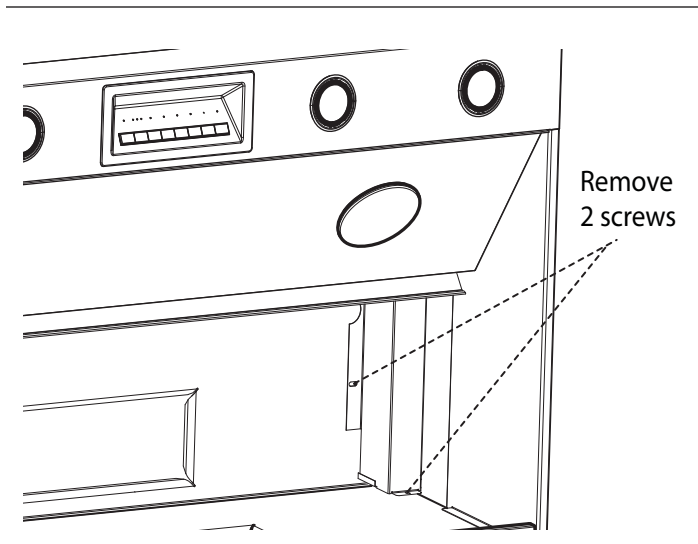
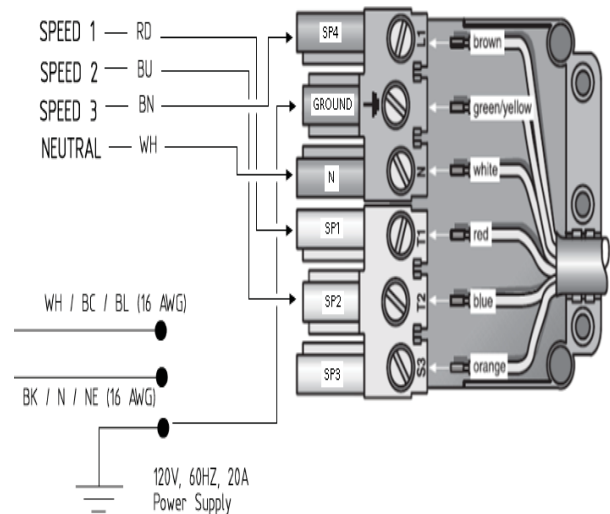

Figure 12: Junction Box Channel
Figure 21: Wiring the Hood with a Remote Blower
1. Remove junction box channel covering the wires (see *Figure 12 on page 10*).
2. Remove circular knockouts (*Figure 12 on page 10*).
- Lost or missing wire nuts should only be replaced with spring type wire nuts, rated for a minimum of two (2) #18 gauge wires and maximum of four (4) #14 gauge wires, UL & CSA rated to 600V and 302°F (150°C).
7. Run five (5) #14 AWG wires in 1" (25.4 mm) conduit from the remote blower to the second conduit connector.
8. Connect the remote blower to the pigtail wires as per *Figure 21*. Connect the remote blower green (ground) wire to the ground screw in the junction box. Refer to the blower installation instructions for further wiring details.